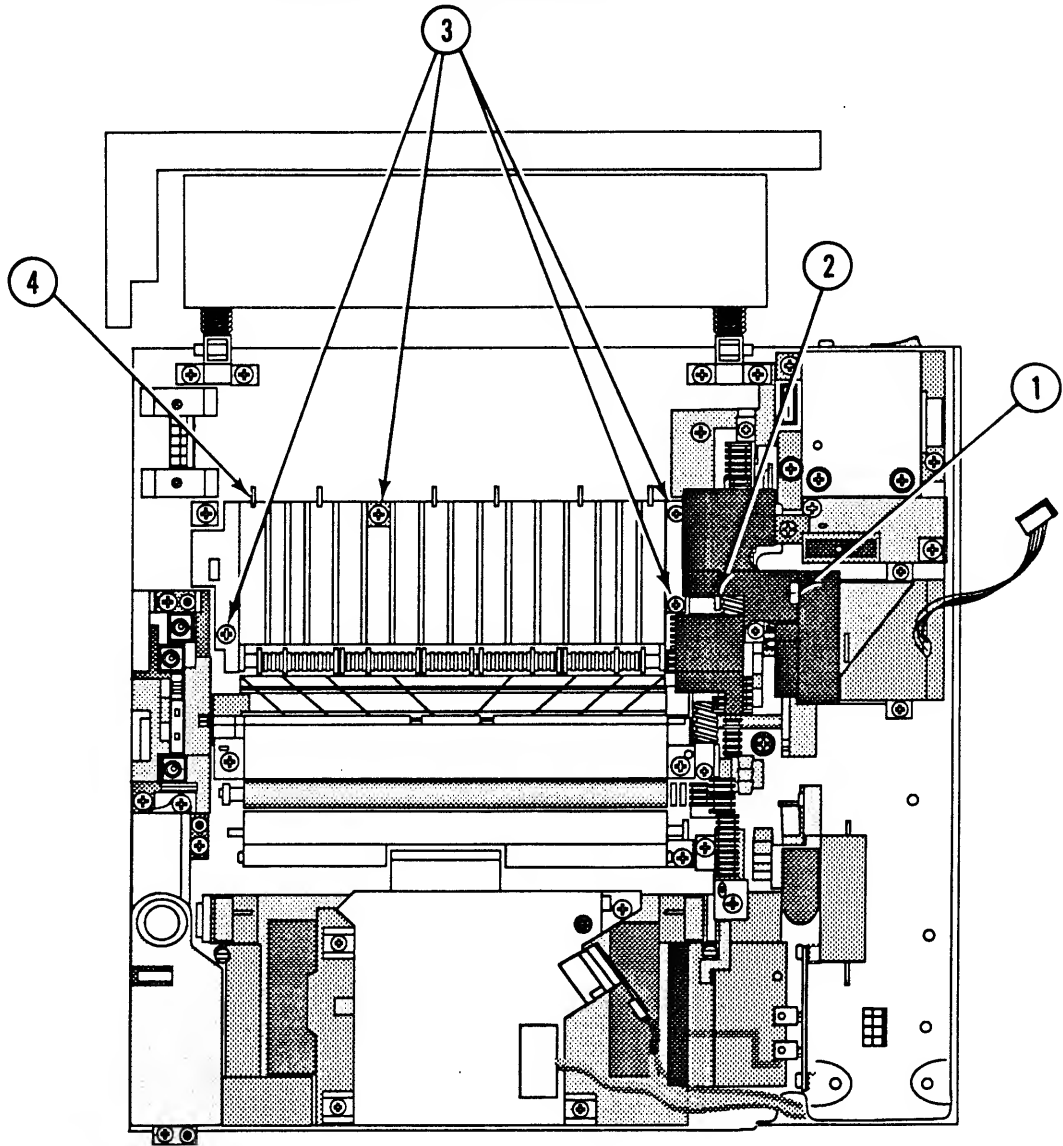

FIGURE 49
2. Remove the Phillips screw (Figure 49, #1) that secures the main motor drive assembly cover (Figure 49, #2) to the main motor mount. Remove the cover.
3. Remove the four Phillips screws (Figure 49, #3) that secure the feeder assembly (Figure 49, #4) to the chassis. Remove the feeder assembly.